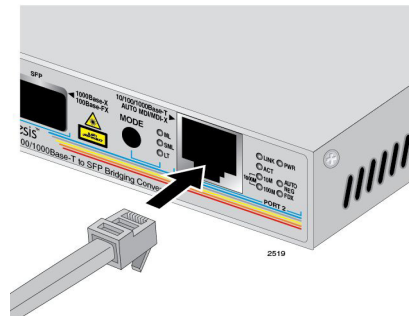

Figure 8. Connecting to the RJ-45 Copper Ports
1. Connect the RJ-45 twisted-pair cable to the 10/100/1000Base-TX port, as shown in Figure 8.